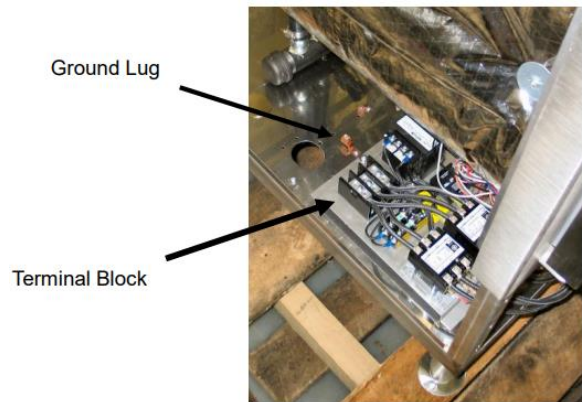

Figure 3-9
4. Refer to the connection diagrams in Figure 3-9 and connect the wires to the terminal block and ground connector accordingly.